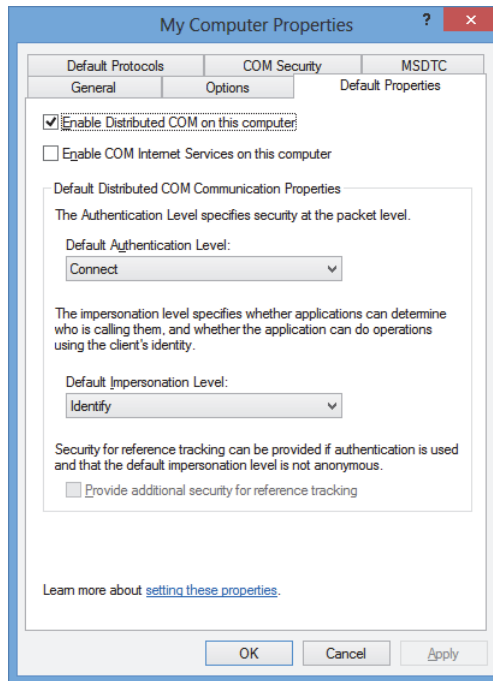

Figure 2-5 The Default Properties tab in the My Computer Properties dialog box
5. In the **My Computer Properties** dialog box (see Figure 2-5 on page 33), proceed as follows: